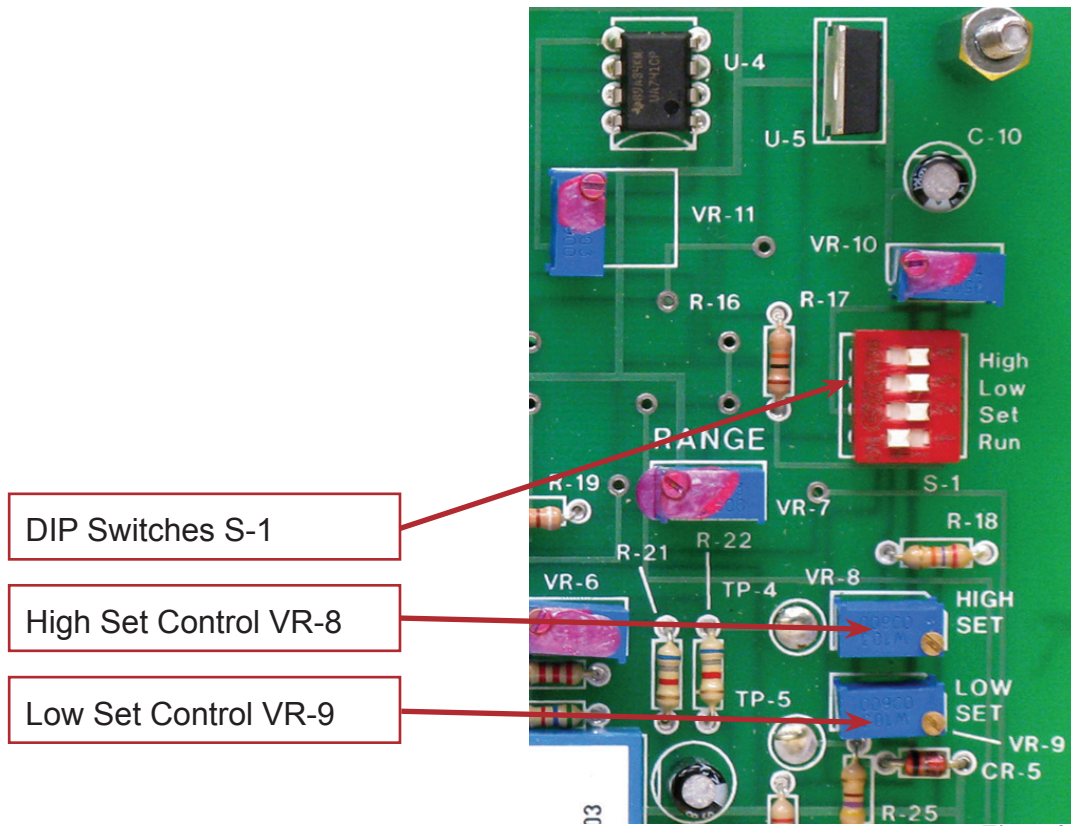

Figure 38
1. Locate the block of four DIP switches (S-1; see **Figure 38**, page 31), and set the switches to these settings.
2. Locate the block of four DIP switches (S-1; see **Figure 38**, page 31), and set the switches to these settings.
3. Locate the block of four DIP switches (S-1; **Figure 38**, page 31), and set the switches to these settings.